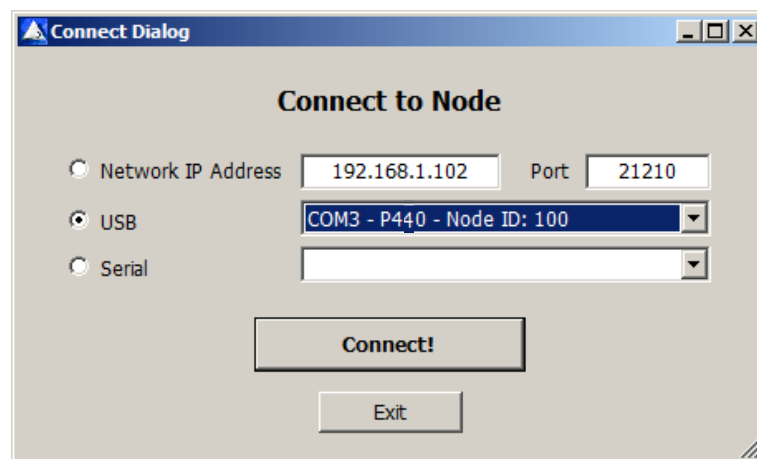

Fig. 8: RangeNet RET connect screen after USB connection
2. Connect the USB cable from the P440 USB port to the host computer. A system message should appear indicating that the system has identified a new connection and the correct driver is being connected. This could take as long as two minutes. Once that process is complete, RangeNet RET will set the USB button and indicate which COM port is connected to the P440. This is illustrated below in **Figure 8**.